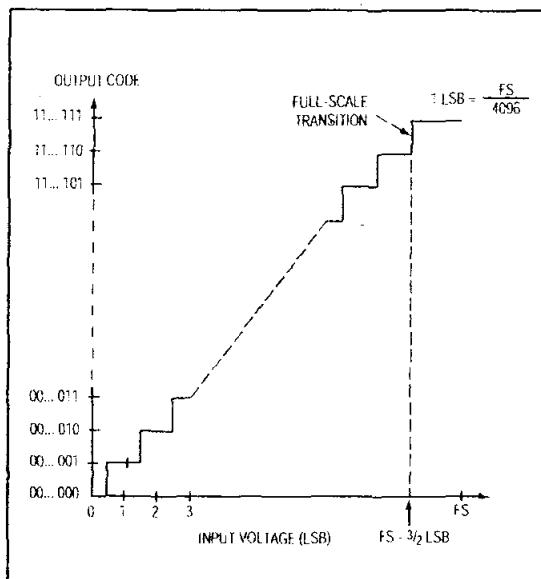

Figure 10. Unipolar Transfer Function
Output data coding for the MAX196/MAX198 is binary in unipolar mode with  $1\text{LSB} = (\text{FS} / 4096)$  and two's-complement binary in bipolar mode with  $1\text{LSB} = [(2 \times |\text{FS}|) / 4096]$ . Code transitions occur halfway between successive integer LSB values. Figures 10 and 11 show the input/output (I/O) transfer functions for unipolar and bipolar operations, respectively. For full-scale (FS) values, refer to Table 1.